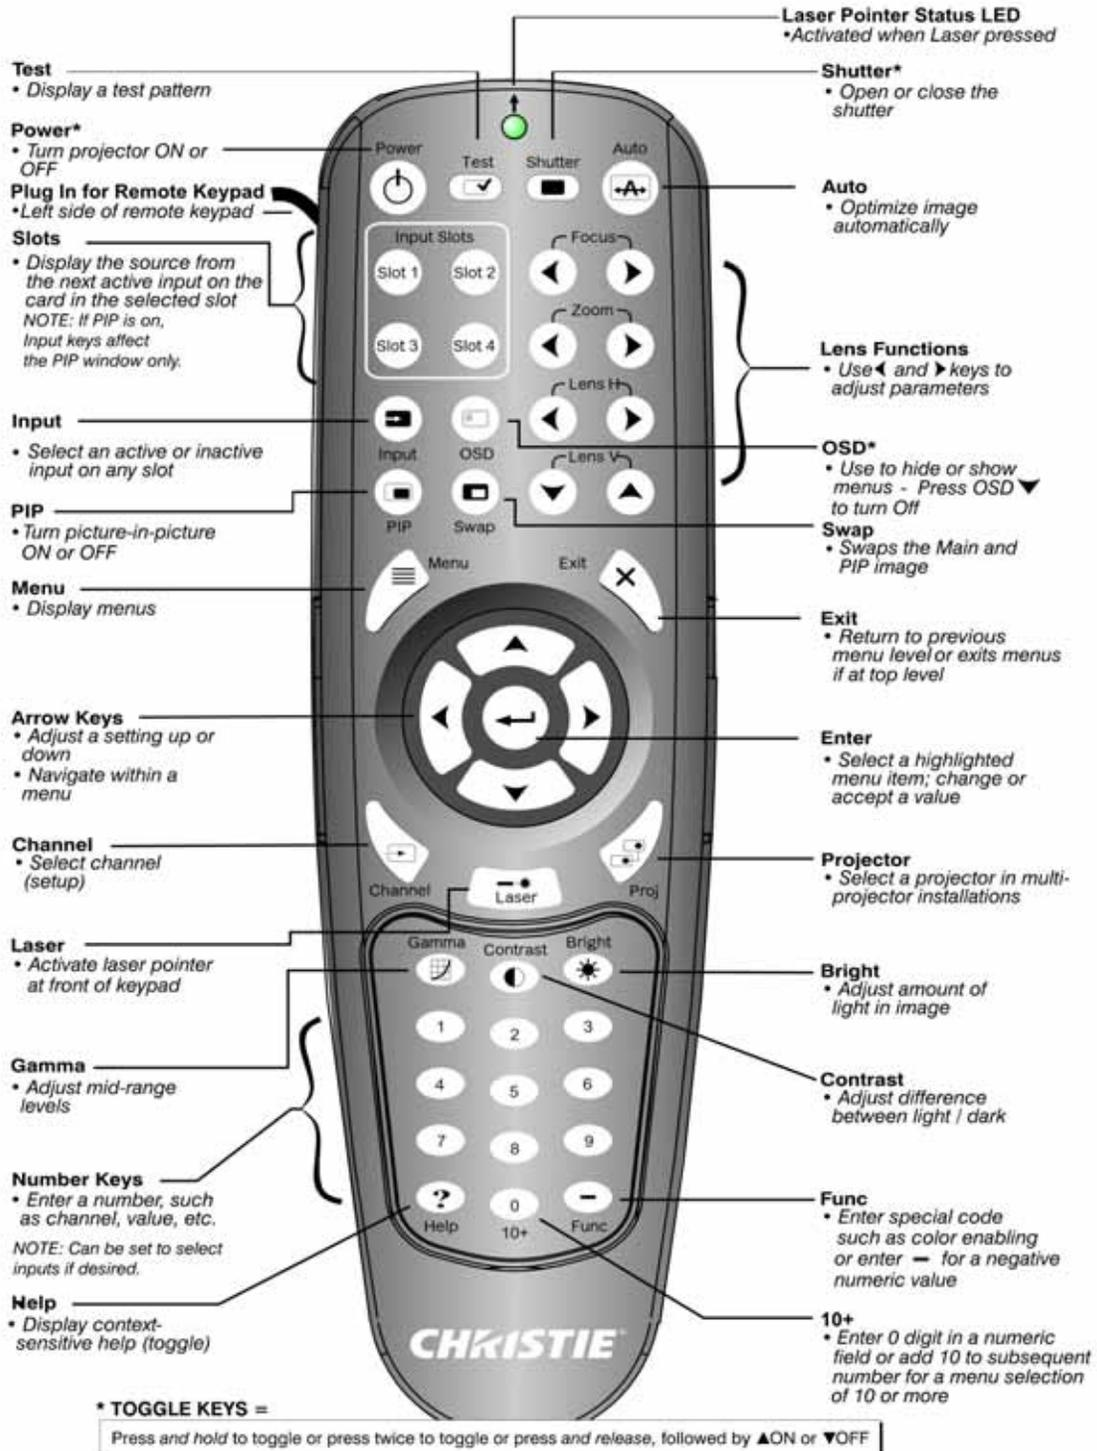

FIGURE 3-1 REMOTE KEYPAD
- **Remote Keypad:** For wired or wireless control up to 25 feet (8 m) away (includes cable for use as a wired remote). The remote keypad controls the projector by way of wireless communications from a battery-powered infrared (IR) transmitter. Use the remote keypad the same way you would use a remote keypad supplied with a TV or VCR. When pressing a function key, direct the keypad toward the projector's front or rear IR sensor. One of the two IR sensors on the projector will detect the signal and relay the commands for internal processing. A laser pointer is built into the remote keypad. See **Figure 3-1 Remote Keypad**.
**NOTE:** Use **POWER**, **SHUTTER**, and **OSD FUNCTIONS** by doing one of the following: “press-and-hold” (2 seconds) or press twice quickly, followed by pressing either the **UP ARROW KEY** to switch on or the **DOWN ARROW KEY** to switch off once. See **Figure 3-1 Remote Keypad**.
See **Figure 3-1 Remote Keypad** for the description of the keys provided for the remote keypad.
Specific keypad commands are explained in **Figure 3-1 Remote Keypad**.